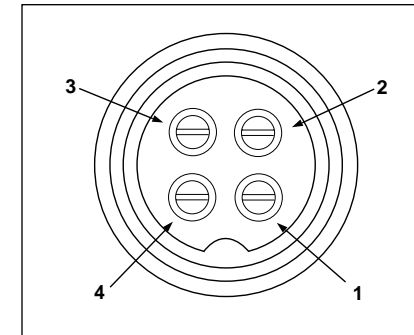

Fig. 4. Microphone plug pin numbers viewed from rear of pin receptacle.
5. The wires must now be soldered to the pins as indicated in the above wiring tables. If a vise or clamping tool is available it should be used to hold the pin receptacle body during the soldering operation, so that both hands are free to perform the soldering. If a vise or clamping tool is not available, the pin receptacle body can be held in a stationary position by inserting it into the microphone jack on the front panel. The numbers of the pins of the microphone plug are shown in Fig 4, as viewed from the back of the plug. Before soldering the wire to the pins, pre-tin the wire receptacle of each pin of the plug.